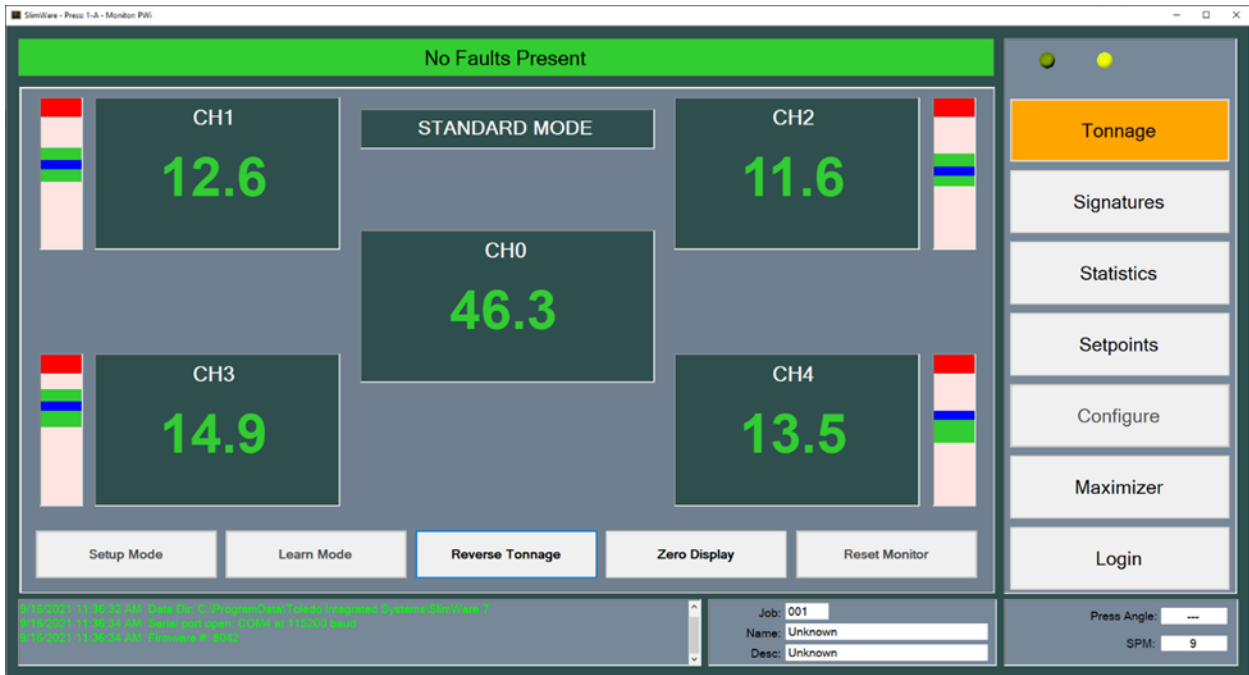

Figure 2-5: Tonnage Screen (4-Channel)
Figure 2-5 shows a typical four (4) channel LS-ZT monitor. Each corner displays the current tonnage and will turn red if an alarm is flagged for that channel.
- Standard (Shown in Figure 2-5)